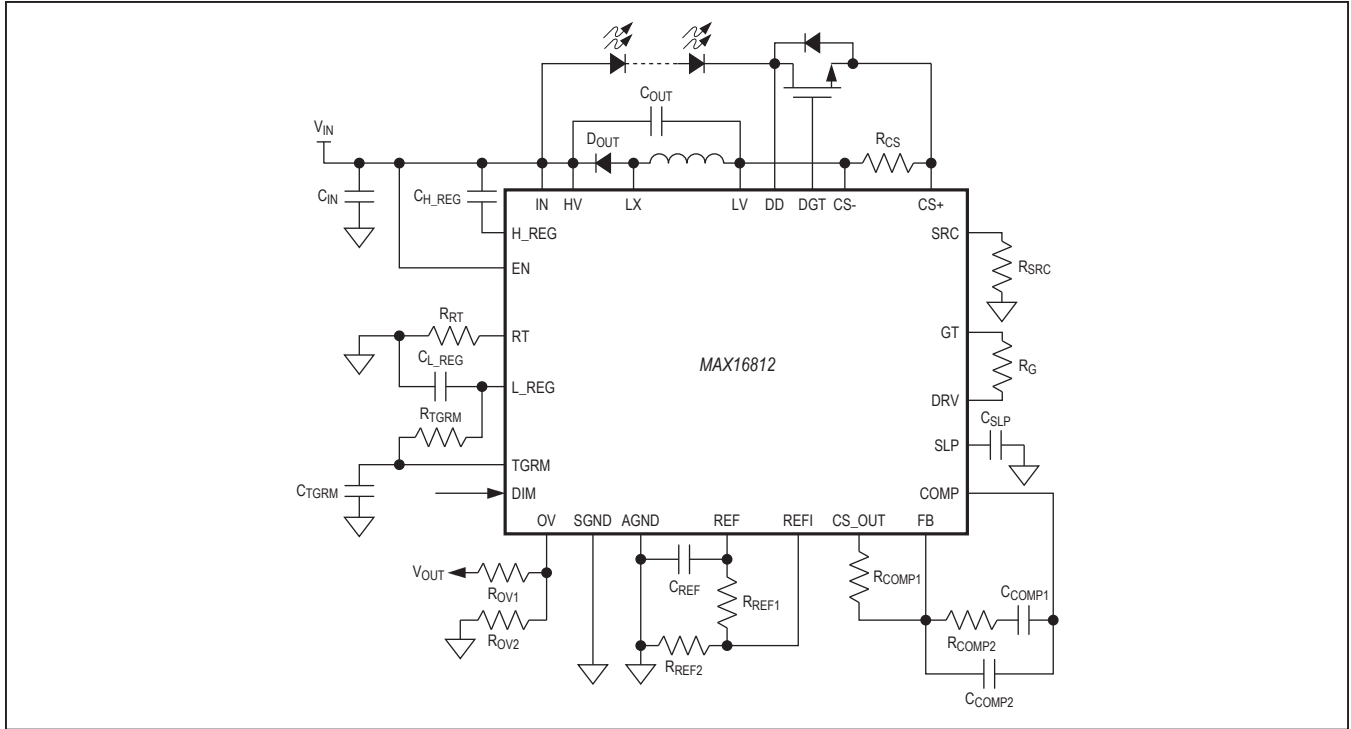

Figure 13. Buck Configuration
**Buck Configuration:** In a buck configuration (Figure 13), the average inductor current does not vary with the input. The worst-case peak current occurs at the highest input voltage. In this case, the inductance, L, for continuous conduction mode given by: